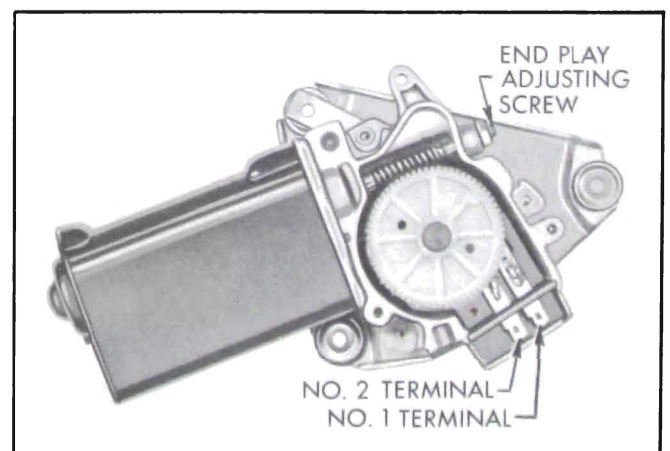

Figure 13-15—Checking Wiper Motor
(1) Circuit breaker contacts clean and closed.
(2) All solder connection -- tight and not grounding to frame.
(3) Brushes slide freely in their holders and brush springs are properly positioned. See Figure 13-15.
(4) Armature checks:
Open--Using a test lamp check between terminals 1 and 2. See Figure 13-15. If lamp fails to light an open field is indicated.
Grounded--Unsolder motor lead from No. 1 terminal (Figure 13-15) and connect test lamp between disconnected lead and the motor frame. If test lamp lights a grounded field is indicated.
(1) Check that wiper motor lead that connects to No. 1 terminal (Figure 13-15), is not grounding on motor frame.
(2) Remove gear box cover, baffle and terminal board and check that contacts are not frozen or burnt together.
(a) **Armature End Play--**Loosen end play adjusting screw lock-nut (Figure 13-15) and tighten the adjusting screw until finger tight. Back off 1/4 turn and tighten lock-nut.